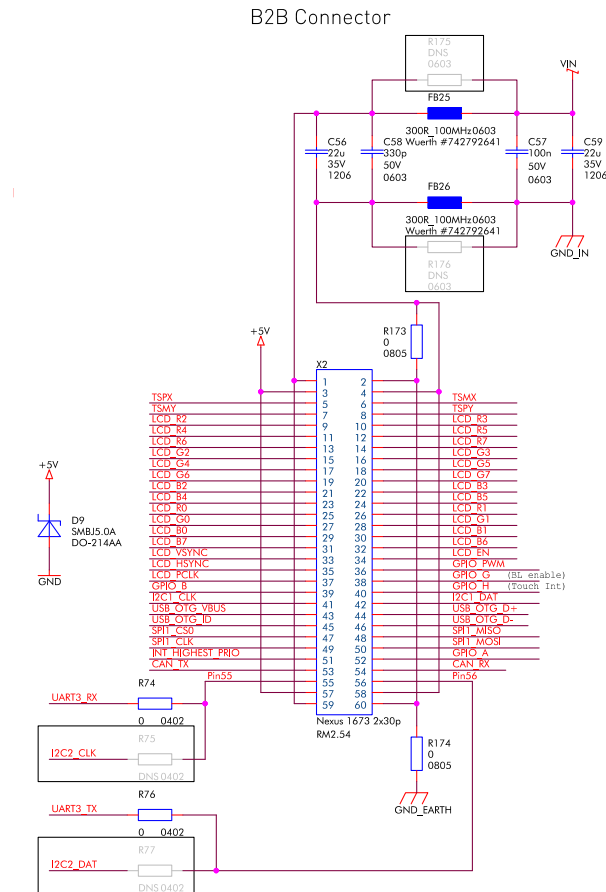

Figure 3: Filtering VCC\_IN
- 2) VCC\_IN is the filtered power supply voltage which is connected to X6 or X7. See Figure 3.
- 3) GND\_IN is the filtered ground which is connected to X6 or X7. See Figure 3.